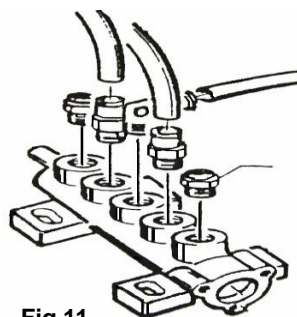

Fig 11
- f. For opening/closing clamps (see fig 11.) and proceed as follows: